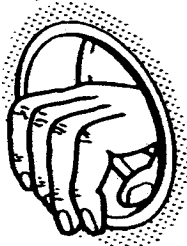

Fig. 68
10. Make good between the edge of the liner and the outside wall with cement mortar or a similar substance, by reaching through the liner and pressing the mortar between liner and the outside brick work (Fig. 68). Make good between the liner and the inside wall. Apply soap solution to the 'O' ring inside the liner.